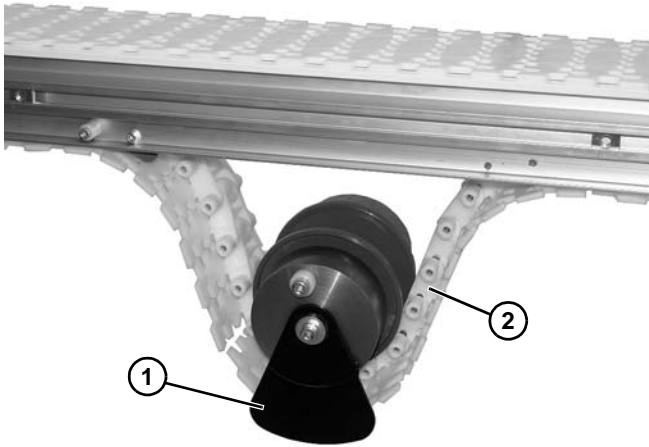

Figure 61
1. Install idler pulley assembly (Figure 61, item 1) onto belt (Figure 61, item 2).